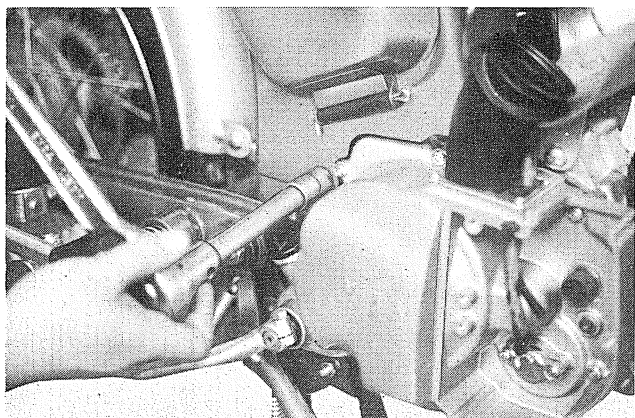

Fig. 3-1-18
15. Pull out the two mounting bolts on the upper part of the engine, and loosen the foot rest mounting bolt. Then tilt the engine forward. (Figs 3-1-18 and 19)